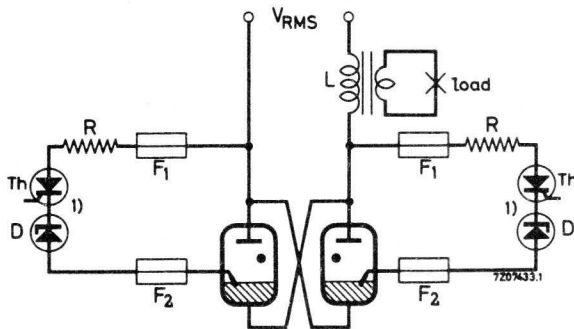
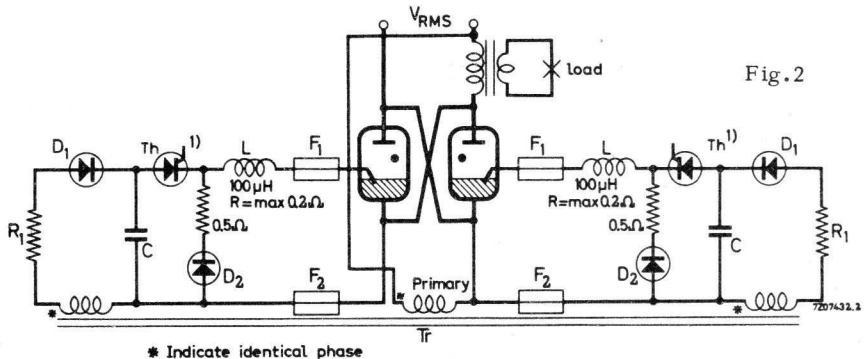

Fig. 1
Fig. 2
Typical examples are given in fig.1 (self excitation) and fig.2 (separate excitation).
A. Anode excitation (fig. 1)
B. Separate excitation (fig.2)